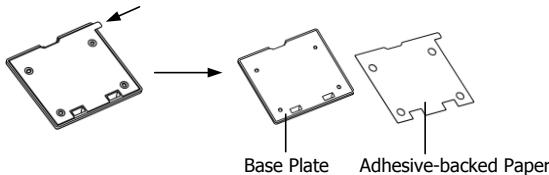

Fig. 11-10
- Pull the **Adhesive-backed Paper** off the **Base Plate** as indicated by the arrow icon in the top left of Fig. 11-10.